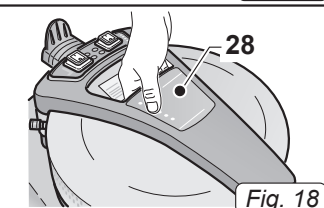
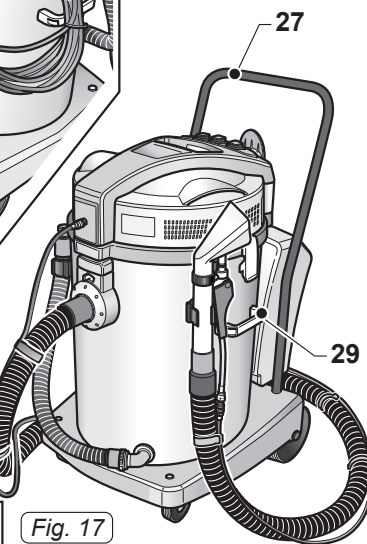

Fig. 18
Fig. 17
- The appliance is fitted with wheels and can therefore be pulled along using the flexible hose, or pushed with the handle (27 Fig. 17)
- To lift it up insert your fingers under the dedicated handle (28 Fig.18) on the top of the cover of the single version motor or lift with the help of two people using the handles (29 Fig. 17)